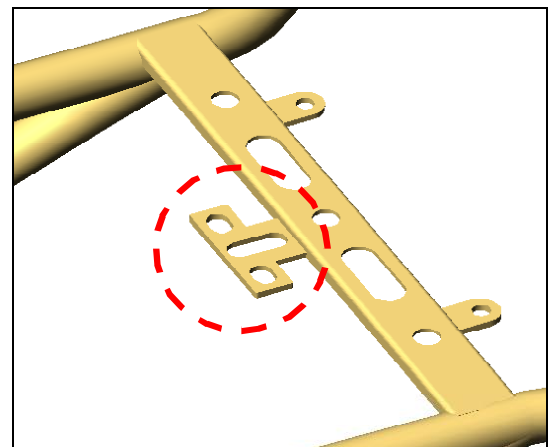

Figure 3
- c. Remove the Hazard and Turn Signal relays from the center holder; bend Relay Holder Tab up 90°. Relays will be relocated to left and right sides. Figure 3